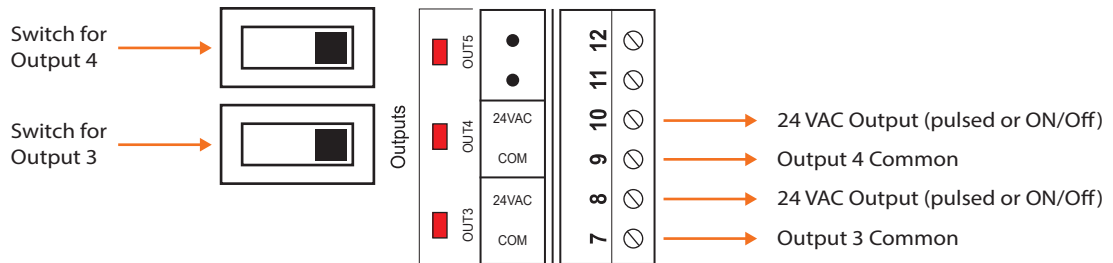

Figure 17 - Outputs 3 and 4 Active
1) Switch position to obtain an **active output** (see Figure 17):